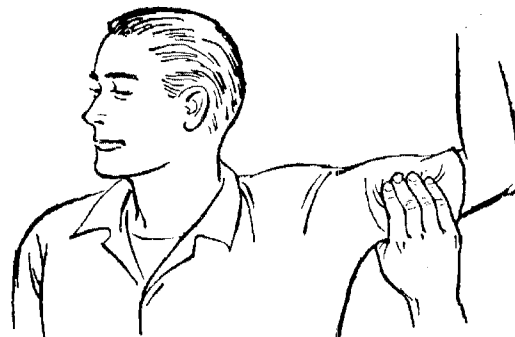

Fig. 2—Finger Pressure on Brachial Artery
- (c) If an arm or leg is involved, and direct pressure must be delayed or is not entirely effective, apply digital pressure at pressure points. (Figs. 2 and 3)